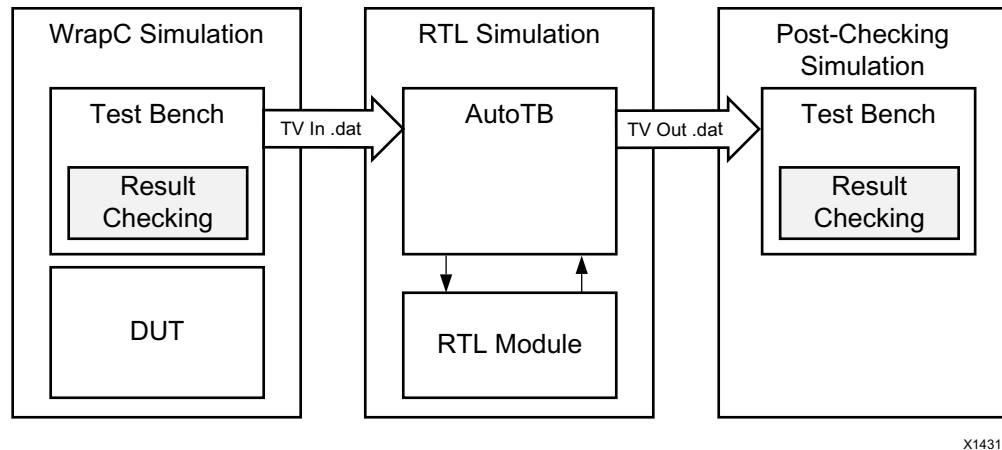

Figure 1-72: **RTL Verification Flow**
C/RTL co-simulation uses the C test bench to automatically verify the RTL design. The verification process consists of three phases, shown in Figure 1-72.
- **Reduce Disk Space:** The flow shown Figure 1-72 in saves the results for all transactions before executing RTL simulation. In some cases, this can result in large data files. The `reduce_diskspace` option can be used to execute one transaction at a time and reduce the amount of disk space required for the file. If the function is executed N times in the C test bench, the `reduce_diskspace` option ensure N separate RTL simulations are performed. This causes the simulation to run slower.